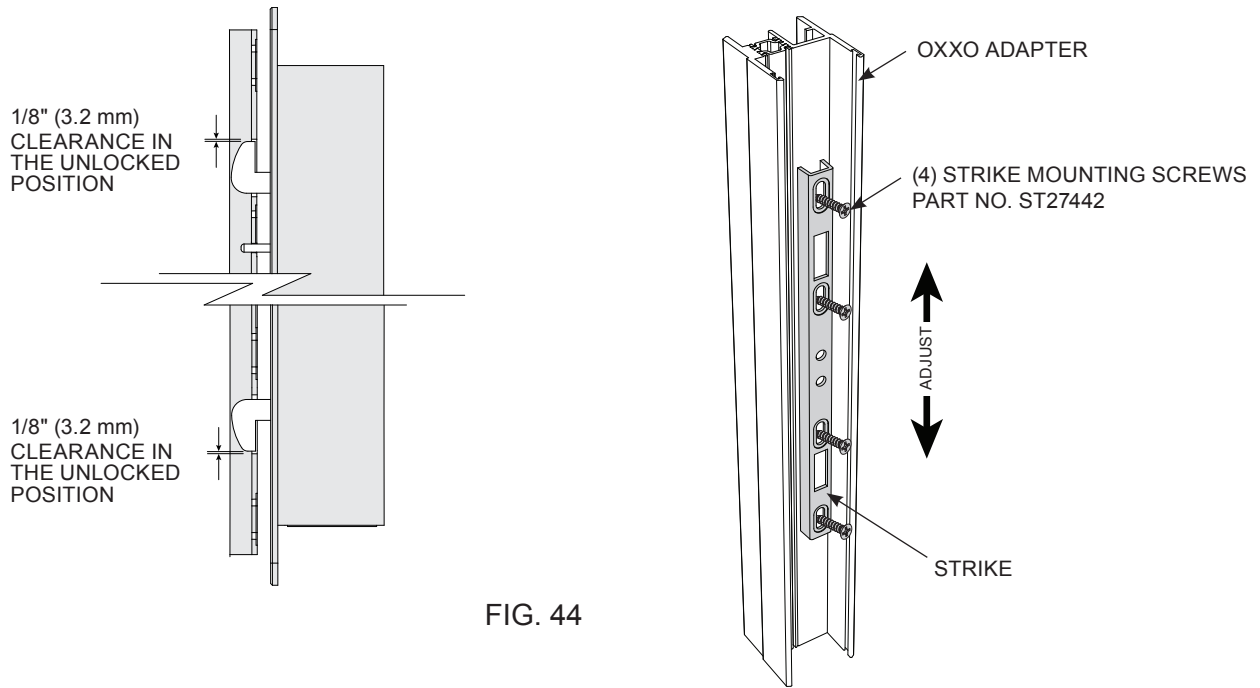

FIG. 44
4. Install strike to the OXXO adapter on the inactive panel. (FIG. 44)